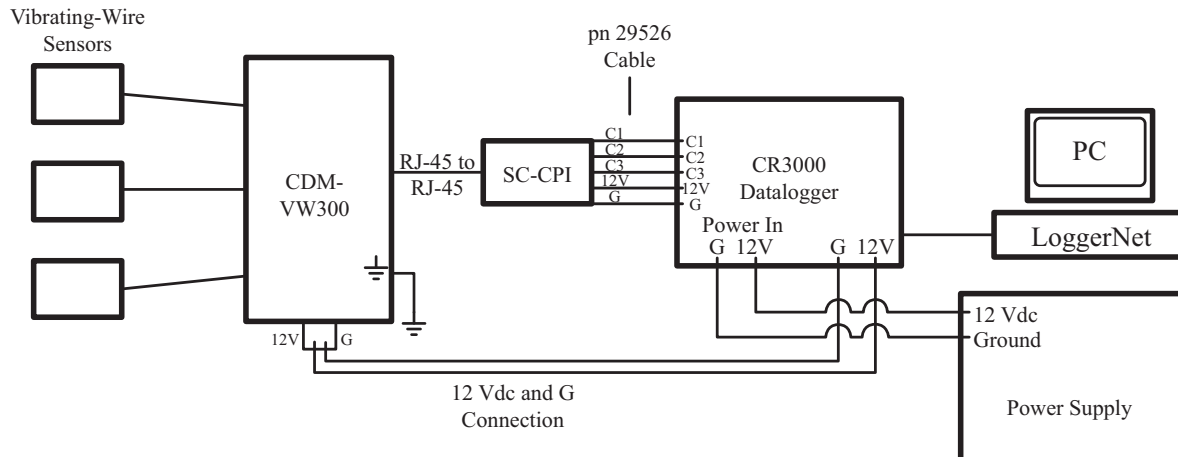

FIGURE 6-7. Field data-acquisition system
FIGURE 6-7 illustrates the final form of a simplified field-mode installation. With reference to this figure, work through the following procedure. Reference Section 7.7, *System Connections*, for more information.
- Assemble the datalogger and power supply using FIGURE 6-7, *Field data-acquisition system*, as a guide. Do not turn power on until the system is completely assembled.